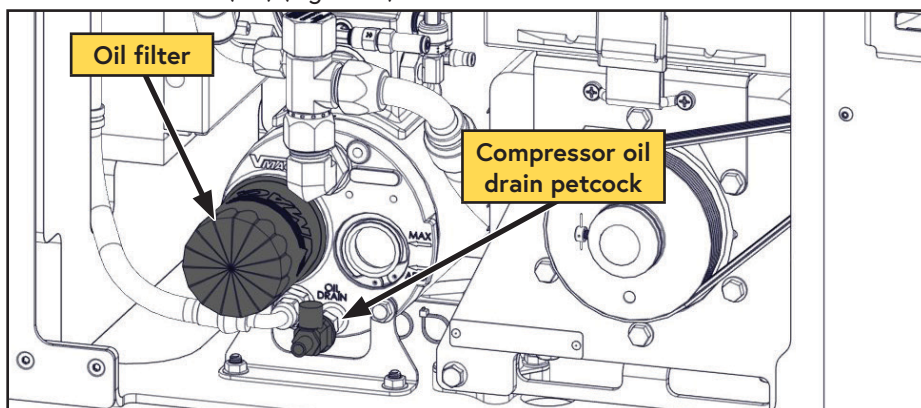

Figure 31 — Compressor oil filter
- ☐ Open the oil drain petcock and drain the oil into a container with a capacity of at least 1.6 USG (6 L) (Figure 31).